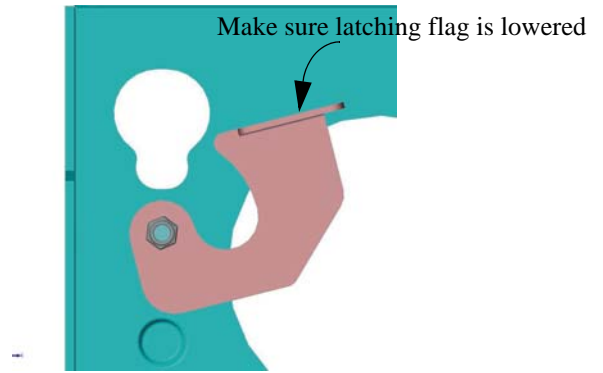

Figure 1. Lower Latch
- Before lifting your flat panel display, make sure the latch of the PDC is lowered and will not interfere with mounting the plasma (see Figure 1).